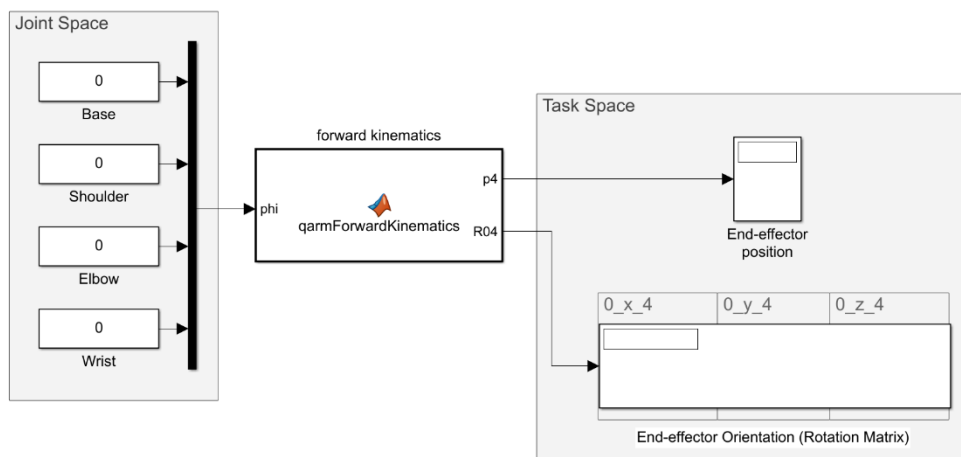

Figure 1: Forward Kinematics Simulink model.
1. Open the ForwardKinematics.slx model via MATLAB. This will be used to implement and validate your forward kinematics formulation. The 'Task Space' section will display the position and the orientation matrix of the end-effector frame with respect to the base frame corresponding to the static joint configurations described in the 'Joint Space' section, as shown in Figure 1.
4. Complete the DH Table below for the QArm manipulator based on the schematic in Figure 1 from the Workspace Identification Application Guide document.
The first plot (Figure 1: QArm Workspace) provides a 3D plot of the end-effector trajectory. It draws the end-effector trajectory of the manipulator in 3D to help you visualize the end-effector motion and its extremes. Rotate the 3D plot using the  tool at the top right of the plot. Take note of the workspace limits, and take screenshots of the X vs Y, Y vs Z, and X vs Z planes.